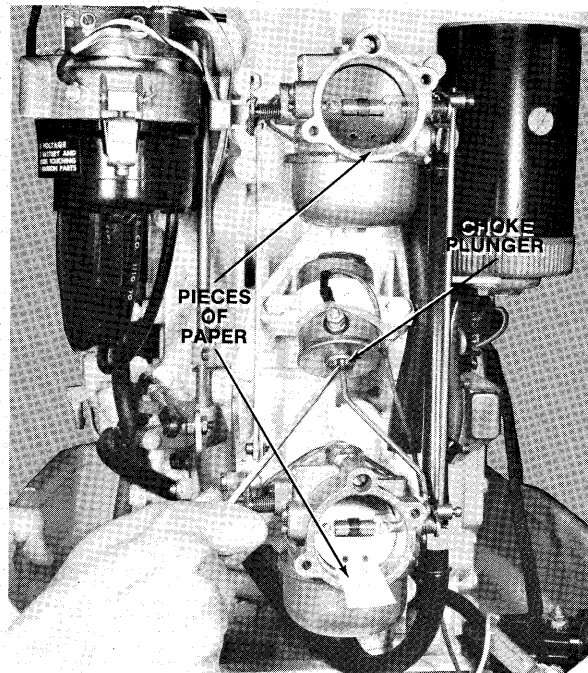

Figure 14—Closing Choke Shutters
- F. With pieces of paper in air horns of carburetors, close choke shutters fully against the pieces of paper by pushing only on choke solenoid plunger as shown in figure 14.